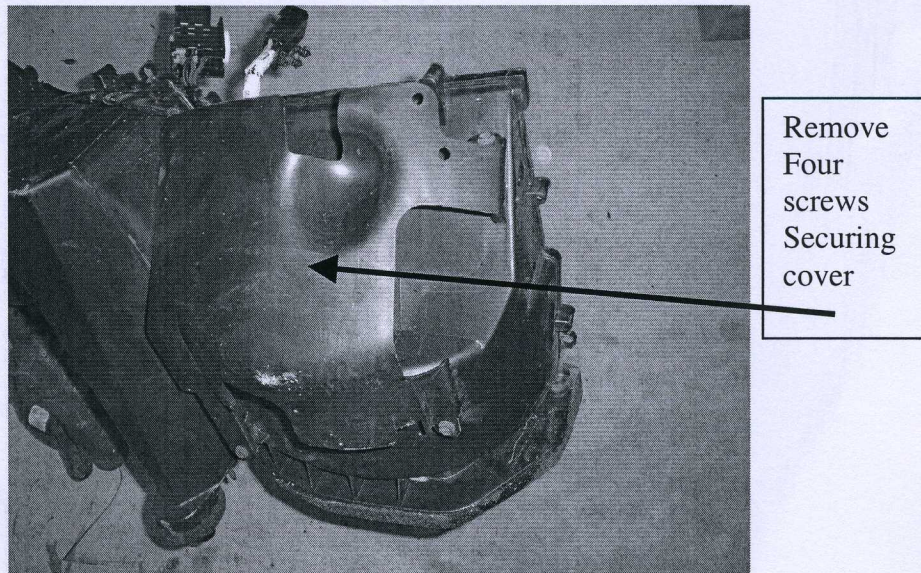

Figure 9.2
7. Install the air inlet cover (four screws, see figure 9.2)